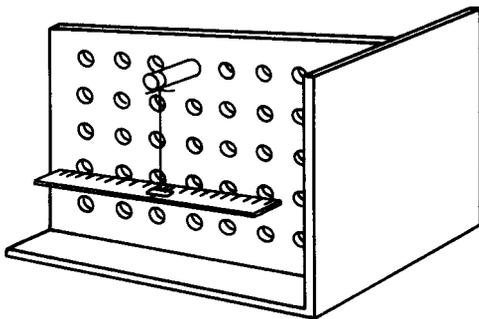

Figure 6-12
1. Set up the pegboard platform. Tie a piece of thread tightly around the exact center of a 12-inch wooden ruler. Attach it firmly to the ruler with a small piece of masking tape to keep the thread from moving. Suspend the ruler by the thread from the support rod (Fig. 6-12). Be sure the scale on the ruler is upright so that it can be easily read.